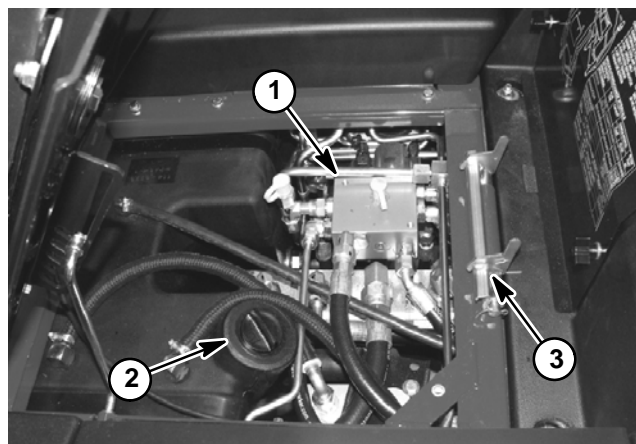

Figure 86
2. Raise and support operator seat to allow access to fan drive manifold (Fig. 86).